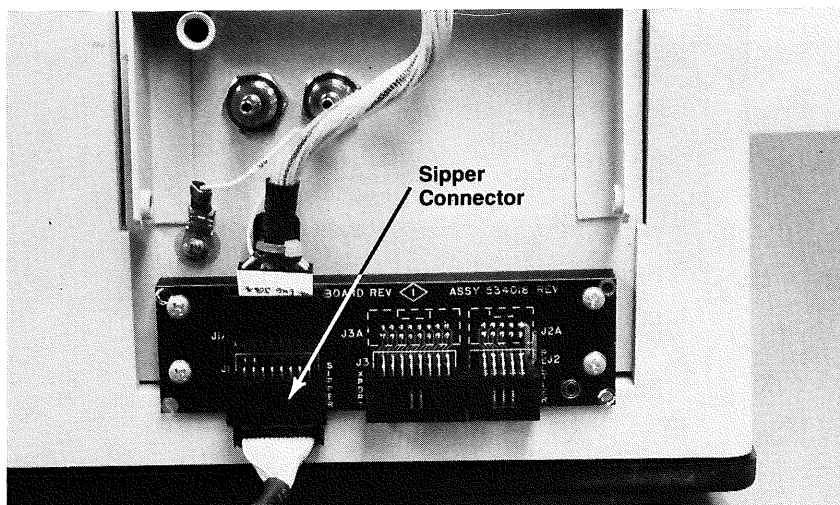

Figure 10.
13. Connect the other end of the sipper cable to the connector on the bottom of the sipper panel. See Figure 10. Slide cable under the instrument.